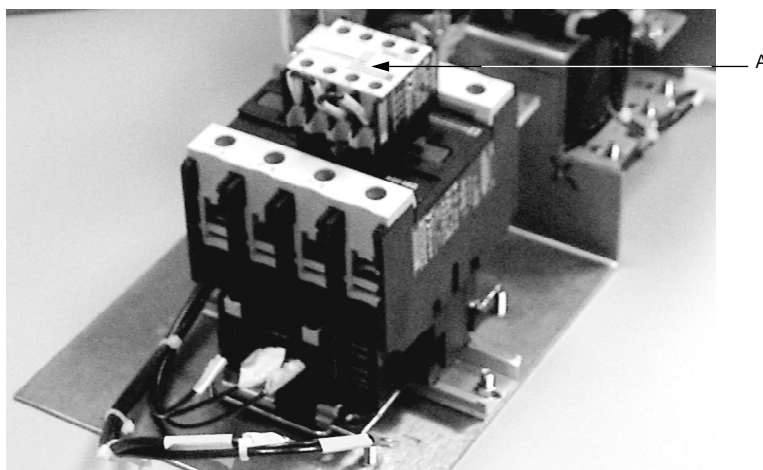

Figure 4.2.42: VY1A661C1010 Precharge Contactor
9. Install the top precharge contactor bus (**A**) onto the precharge contactor(**B**). On ATV66C10N4 to C13N4 controllers, install the four fingers of the bus into the L1-L4 terminals of the contactor. Torque to 100 lb-in (11.3 N•m). On ATV66C15N4 to C19N4 controllers, install the three mounting screws and torque to 63 lb-in (7.1 N•m). Ensure the two wire assemblies are securely attached to the bus. (See Figure 4.2.42 on page 4.2.73).
10. Secure the top precharge contactor bus to the vertical bus with one screw (**C** in Figure 4.2.42). Torque the screw to 63 lb-in (7.1 N•m).
12. Reattach the cables from the lower precharge contactor bus and the current transformer bus to the filter cap (**E** in Figure 4.2.42). Make sure they are mounted on opposite capacitor terminals.
13. Reattach the P51 connector (**D** in Figure 4.2.42).